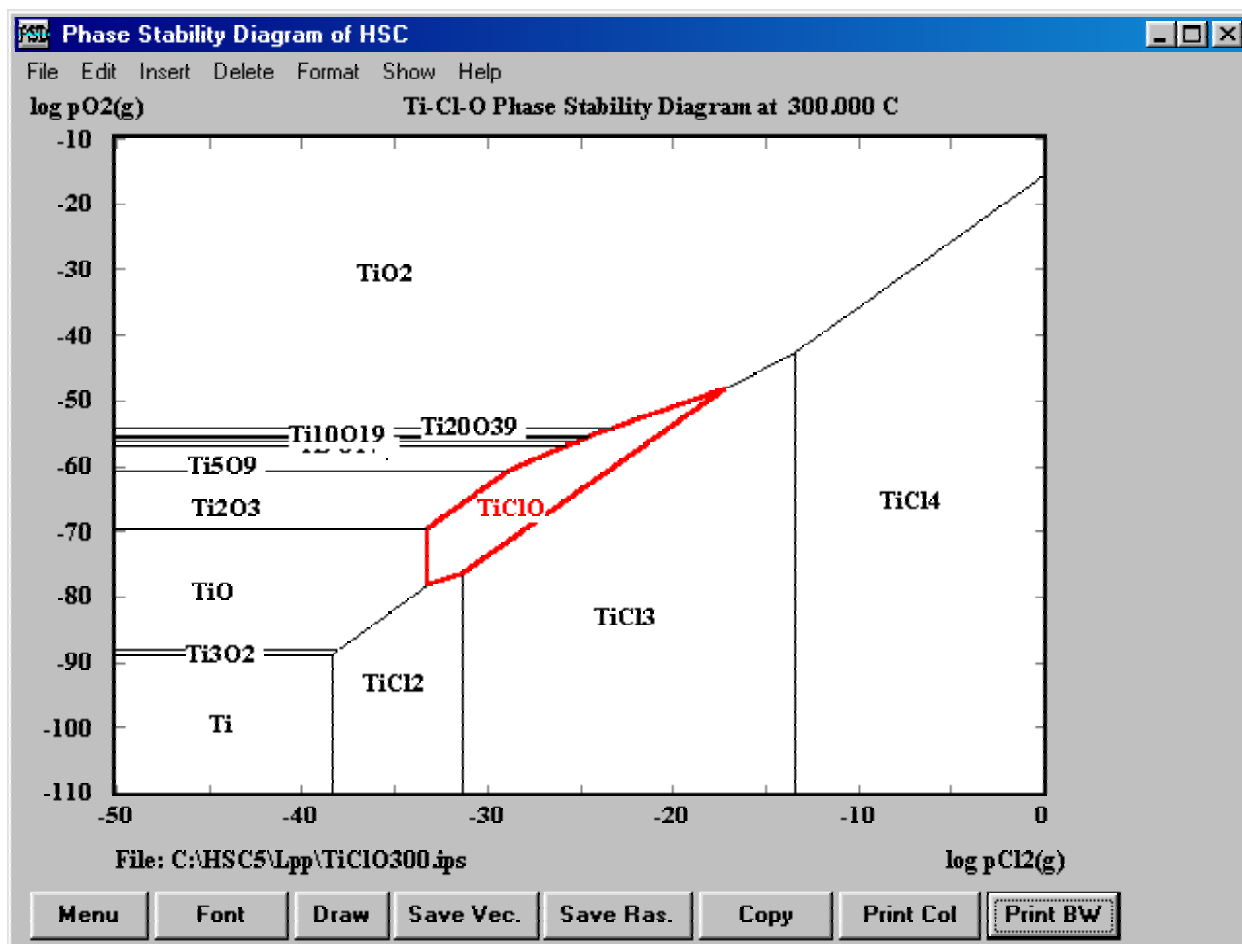

Fig. 6. Phase Stability Diagram of the Ti - Cl - O - system at 300 °C.
3. You can edit the text in the labels by simply clicking the text using the mouse and typing the new text. You can edit the format of the labels and lines by double-clicking the label, see Fig. 6.